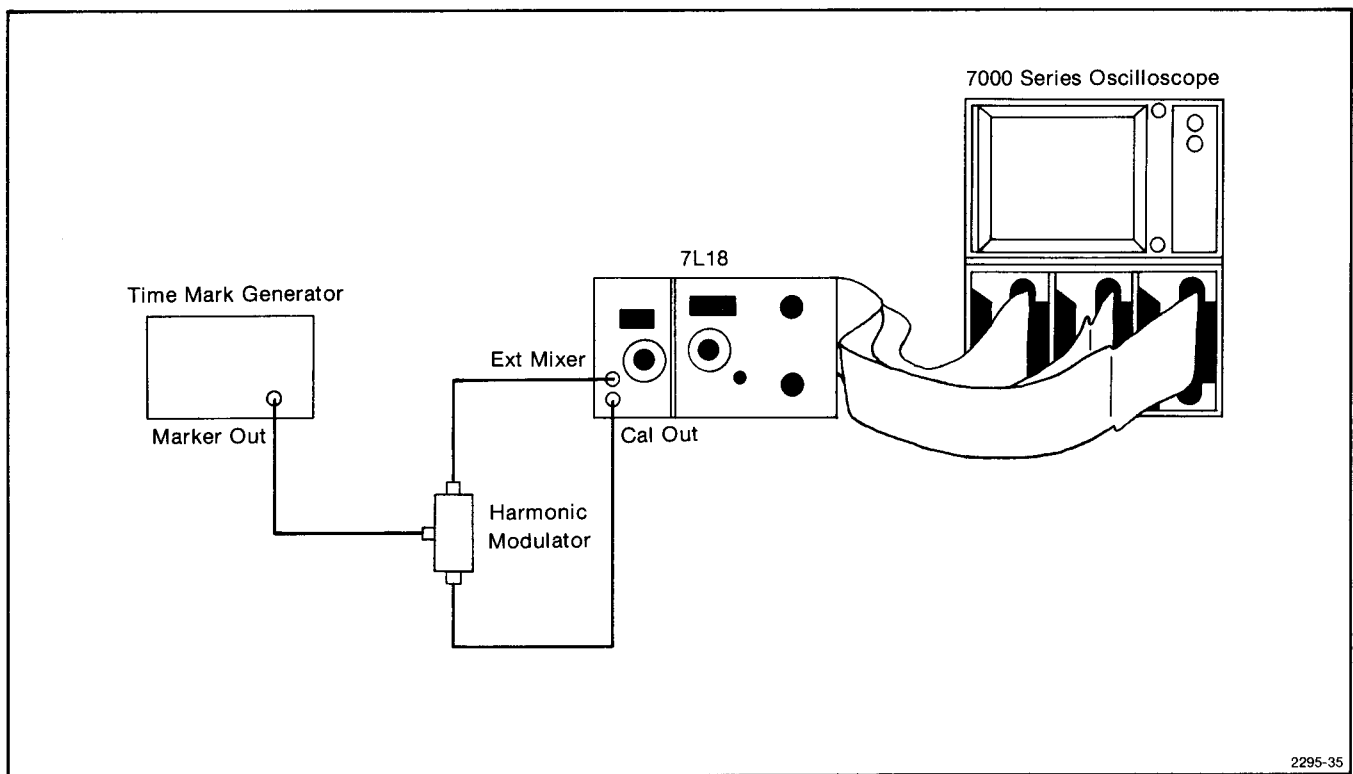

Fig. 4-27. Equipment Setup to Adjust and Calibrate Drive to FM Coil of the 1st LO.
a. Connect the test setup as shown in Fig. 4-27. Set the front panel controls as follows: